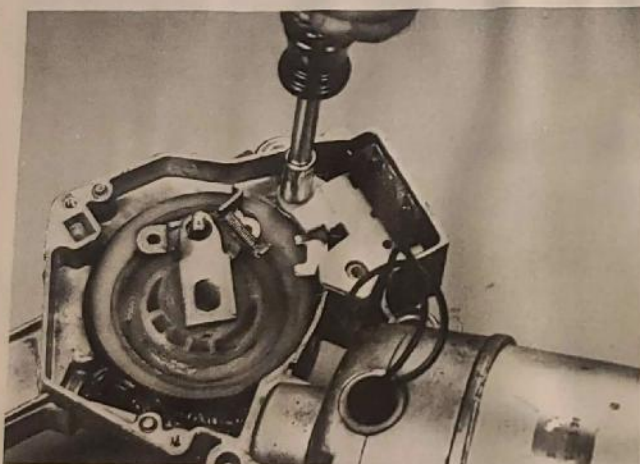

Fig. 40. Removing Terminal Board/Gearbox Relay
2. Remove retaining screws and lift terminal board/gearbox relay out (fig. 40).